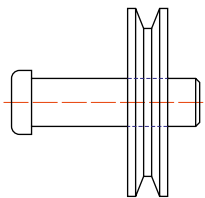

Fig. 10.18 The revised spindle.dwg drawing
7. Open **Fig15.dwg** and make changes as shown in Fig. 10.18.